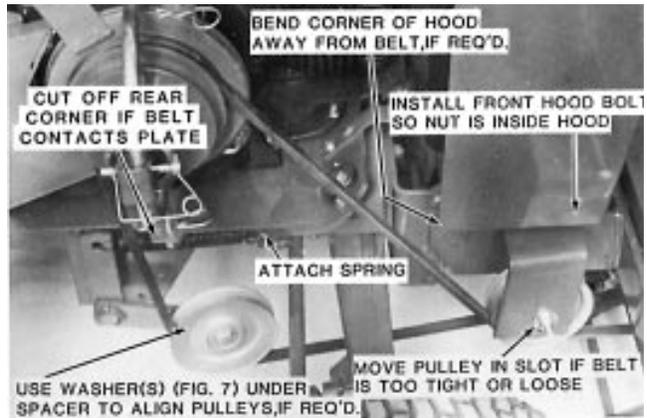

Figure 18
10. Install the drive belt the rest of the way as shown in Fig. 18 and then loop it around the mower drive pulley.
11. If the nut on the bolt securing the bottom of the hood is located outside of the hood, remove the bolt and install it with the nut on the inside (Fig. 18).
12. If the belt contacts the rear corner of the yoke bracket, cut off the rear corner (Fig. 18).
13. If the belt contacts the corner of the hood, bend the corner of the hood away from the belt (Fig. 18).
14. If the belt doesn't track well between the idler pulley and the PTO drive pulley, remove one or both of the washers located between the idler pulley and the lower bracket (Fig. 18).